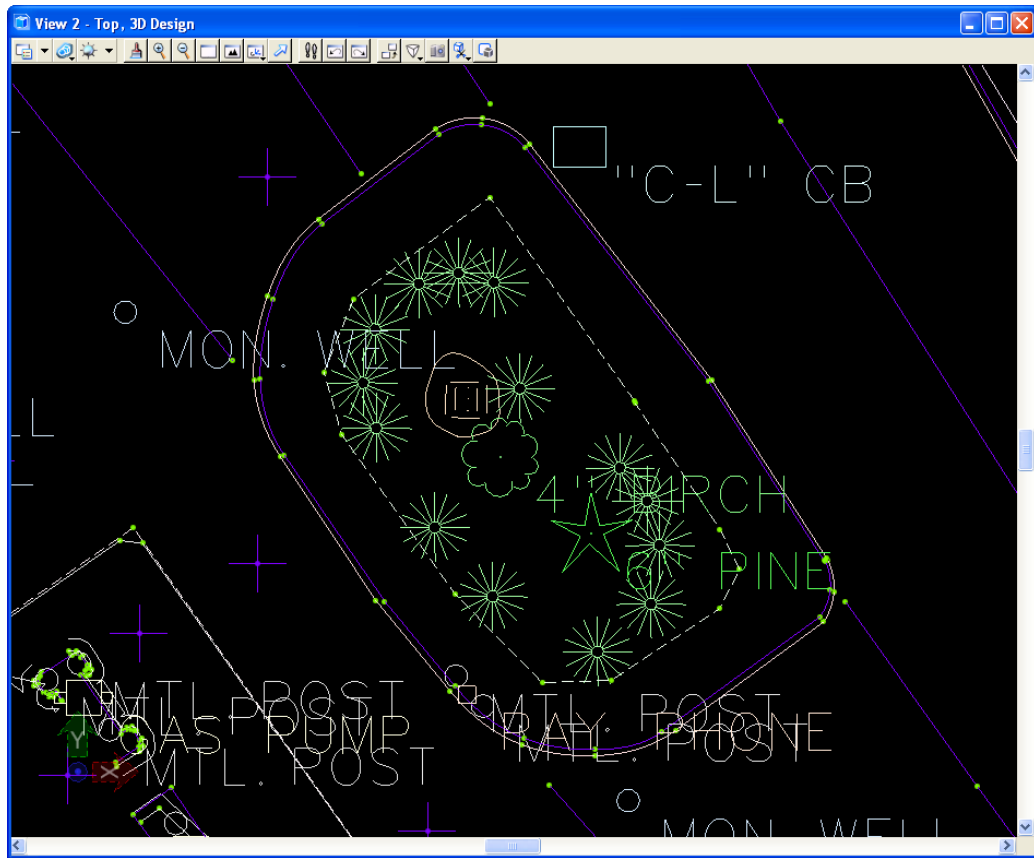

Figure 3-15 MicroStation View
- B. Turn on the display of Point Names. Enter the following edits to the island. The graphics should reflect the line work shown in Figure 3-15.